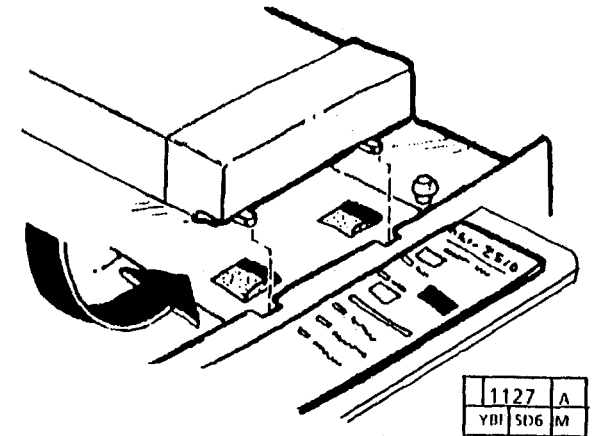

Figure 27. Installing the Document Handler
35. (Figure 27): Install the document handler.